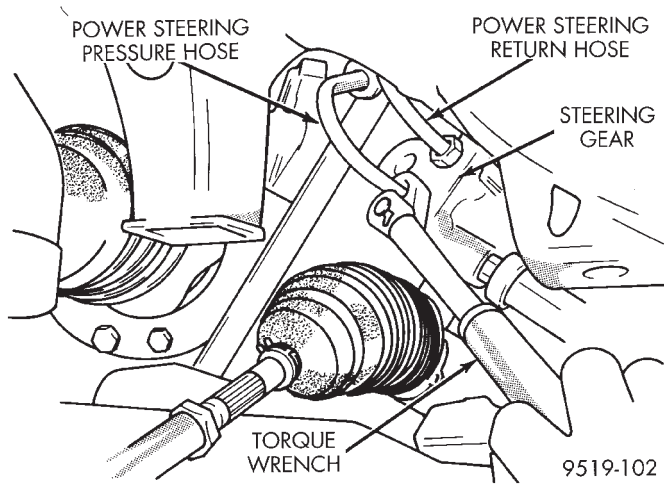

Fig. 16 Power Steering Pressure Hose Tube Nut
(9) Route power steering pressure hose to pressure port on power steering gear. Install power steering pressure hose, on steering gear and loosely install tube nut into steering gear. Then using a crow foot, (Fig. 16) tighten the power steering pressure hose tube nut to a torque of 31 N·m (275 in. lbs.).